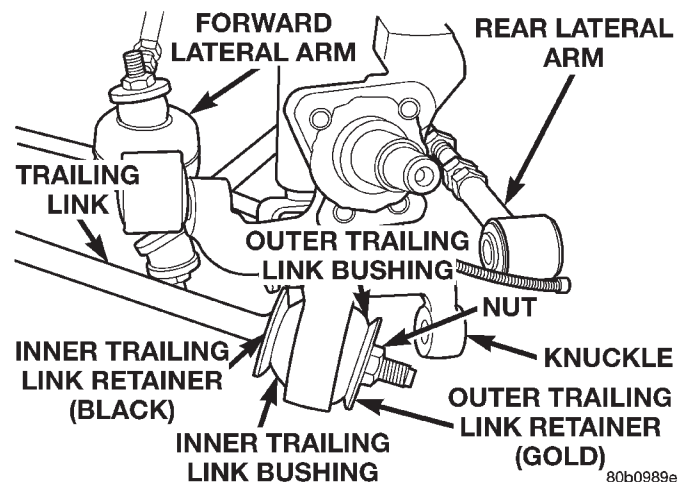

Fig. 17 Trailing Link Bushing And Retainer Installation
CAUTION: The inner and outer bushing location on the trailing link to rear knuckle attachment is important. Do not interchange the inner and outer bushing location when installing knuckle back on trailing link. Also, when installing trailing link bushing retainers, the retainers must be installed with cupped side of retainer facing away from bushing and knuckle (Fig. 17).
(2) Install knuckle on trailing link. Then install the outer trailing link bushing, bushing retainer and retaining nut on trailing link (Fig. 17). Using a large adjustable wrench, to keep trailing link from rotating securely tighten the trailing link retaining nut (Fig. 17) to a torque of 95 N·m (70 ft. lbs.).